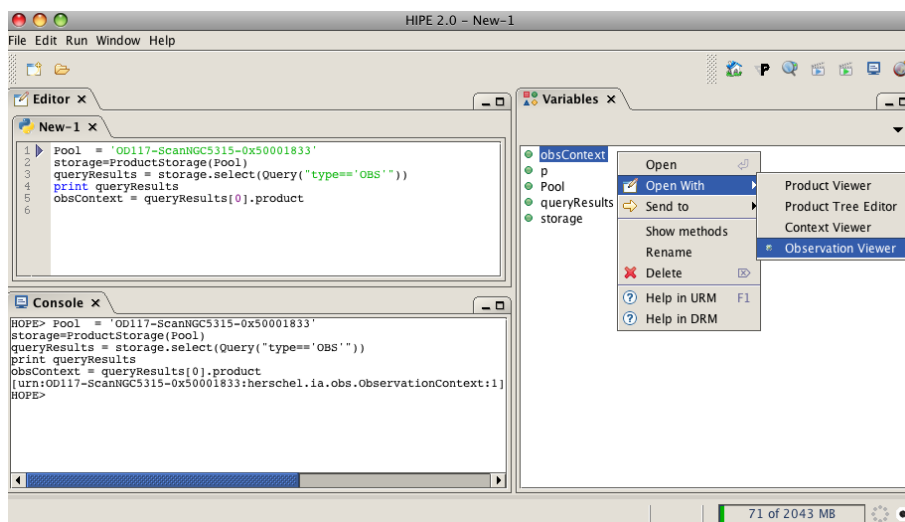
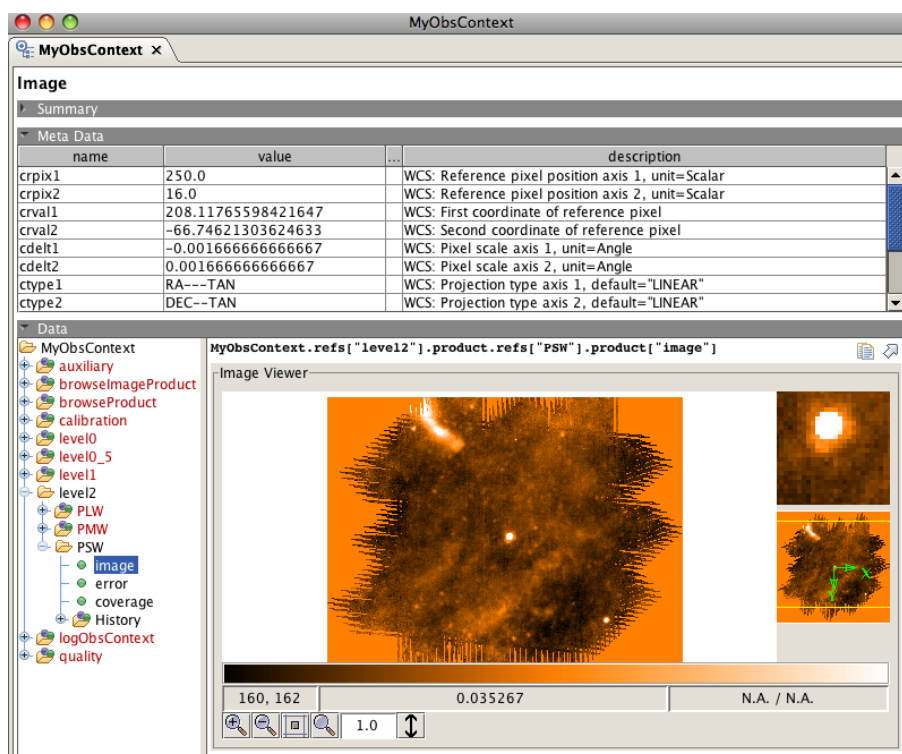

Figure 2.7. Loading and viewing the Observation Context for the Large Map Observation.
Figure 2.8. Accessing the final Level 2 Product maps
**NGC5315** was the target name and **0x50001833** is the unique Observation ID in hexadecimal. Running the above script, reads the Observation Context into memory into the variable **MyObsContext** which appears in the **Variables** pane of HIPE (See Figure 2.7). Right Clicking (or CTRL-click for Apple Users) on the **MyObsContext** variable brings up another menu. Selecting `Open With -- Observation Viewer` will open the Observational Context for this observation. The structure of the Observation Context was explained in Section 2.1 and here we shall look at the data inside the Observational Context. We start with the final Product of the SPIRE Large Map pipeline - the image maps. The maps are Level 2 Products and can therefore be found within the Level 2 Context. The maps can be simply accessed by clicking on the **level2** folder as shown in Figure 2.8, which reveals a SPIRE Photometer Map Product (or more technically `SimpleImage` Products) for each of the three SPIRE arrays (PSW, PMW, PLW). Each Photometer Map Product contains 3 Table Datasets corresponding to the image, error and coverage maps for each array and these are revealed by *clicking* on the + sign next to the array folder.